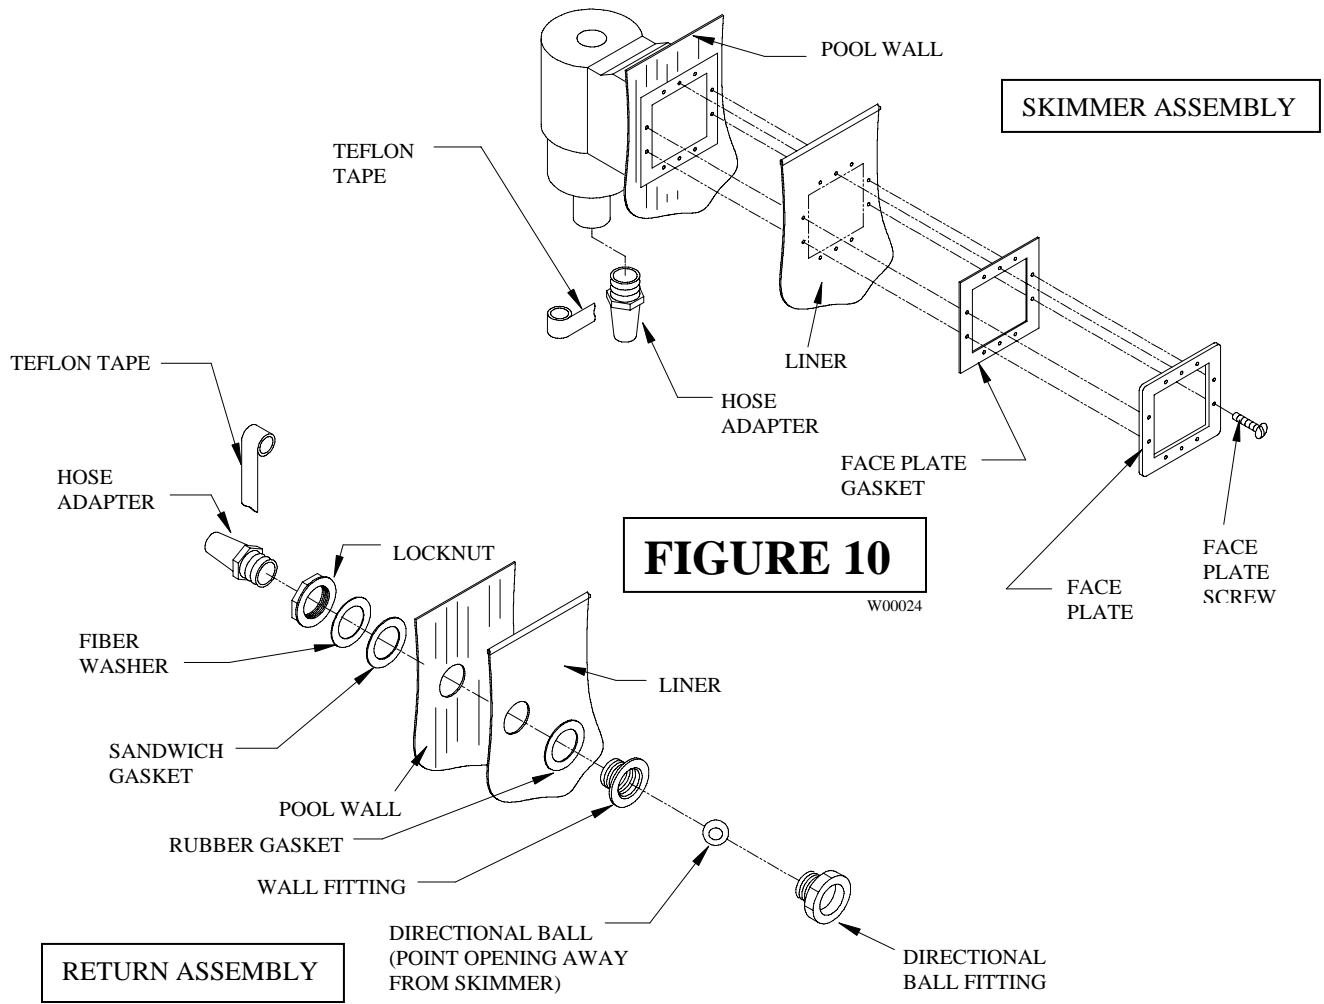

FIGURE 10
Step 14: Follow the instructions for the filtration system, skimmer and return that are supplied with the filter. See Figure 10 for a reference only.